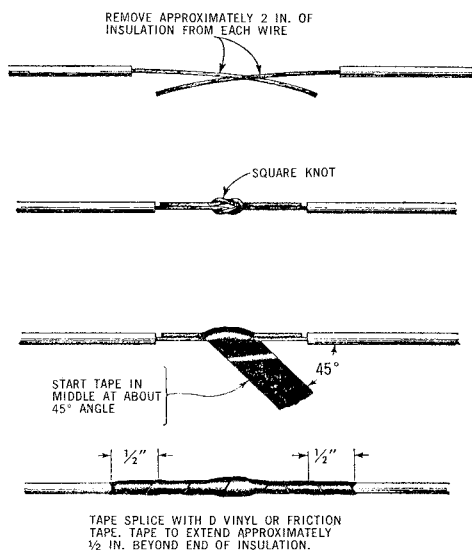

Fig. 7 — Splicing Wire
4.06 Broken cords shall be spliced as illustrated in Fig. 7 and explained: